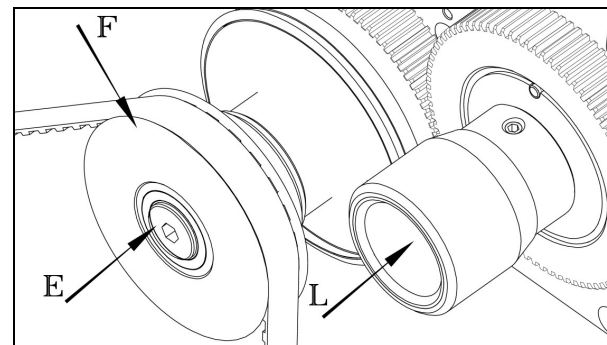
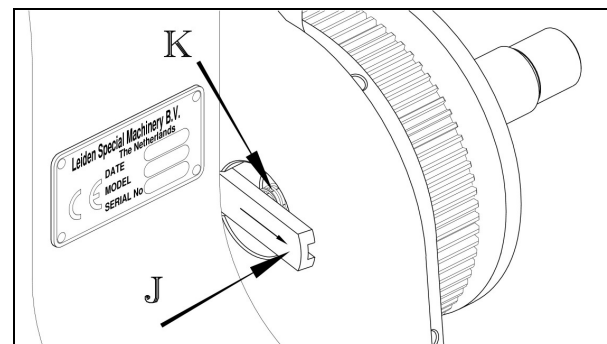

Fig 3
Fig 5
5. In Fig 5, remove the plate (J), the spring, and the pin. Hold the stop bolt in the back position for easier removal of the plate (J). (See page 9, Fig 1 for picture of stop bolt)
- Remove screw (K) and take off the metal gear.
6. In Fig 3, loosen screw (L) inside the hand wheel. Pull off the nylon gear & handle.